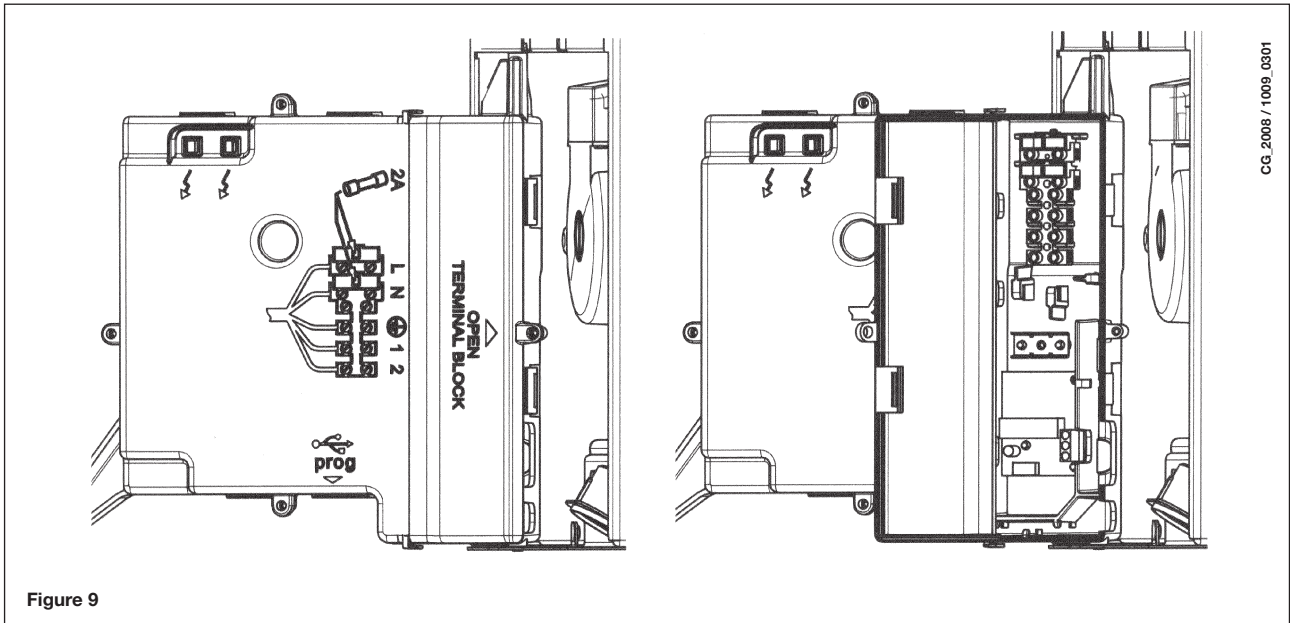

Figure 9
- remove the cover and access the wiring area (figure 9).
- Access the power supply terminal block (figure 9) as described in the previous section;
- remove the jumper on terminals (1) and (2);